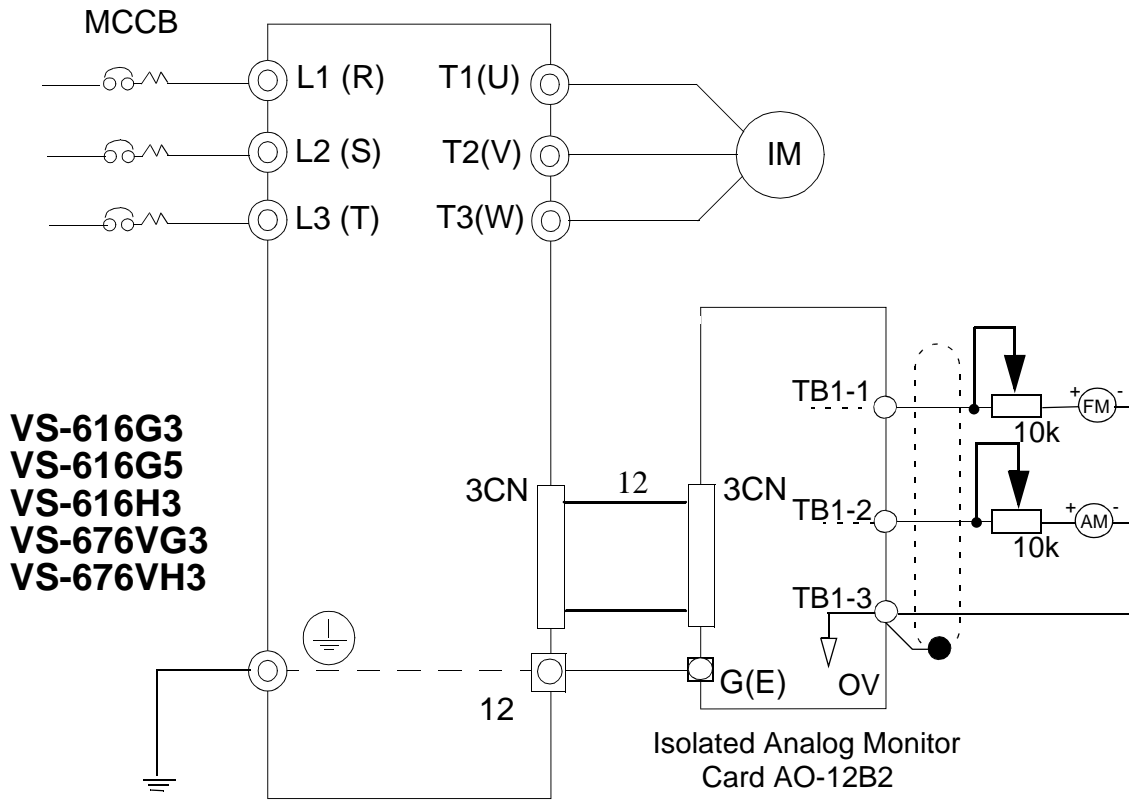

Fig. 3 Interconnection Between Inverter and Peripheral Equipment
Fig.3 shows interconnection of the inverter with the Isolated Analog Monitor Card AO-12B2, and peripheral equipment where the card is connected to analog meters.
2. Use a twisted pair-shielded wire to connect output signals. Connect the shield as shown in Fig. 3 to prevent noise interference.